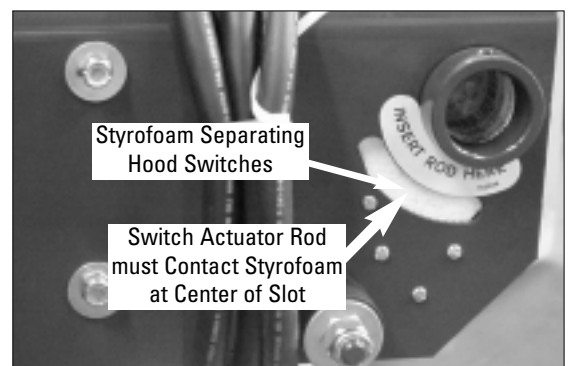

Figure 6 - Slot on the Hood Bracket
- 10.** Next, install the hood assembly to the hood bracket. Carefully line up the switch actuator rod so that it contacts the Styrofoam in the middle of the slot and remains centered as the stationary hood bar is pushed in. As the stationary hood bar is pushed in, the actuator rod must push the Styrofoam in. Refer to figure 6. Be sure the Styrofoam is pushed clear. If not, use a small screwdriver to push it in and out of the way.